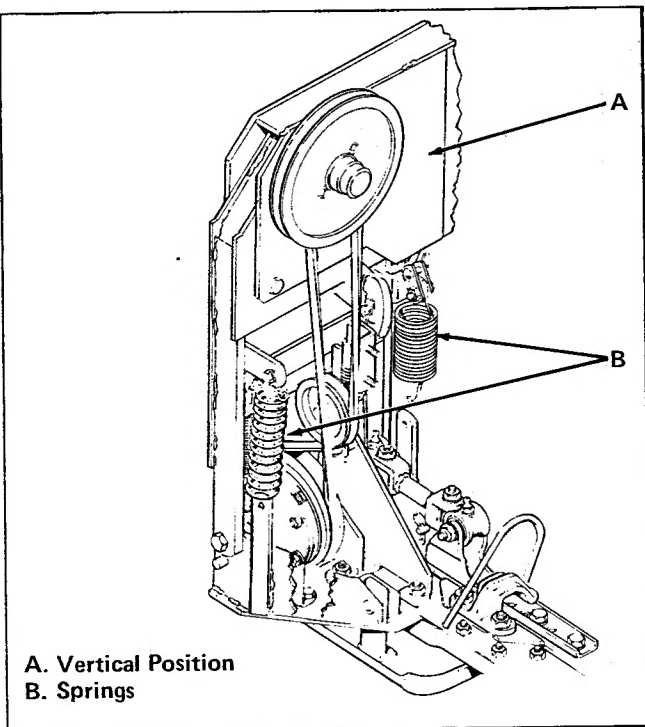

Figure 38. Attach Springs
6. Raise hitch to vertical position (item A, figure 38) towards the sickle bar. Attach loose ends of springs to brackets (item B) using a vice grip pliers.